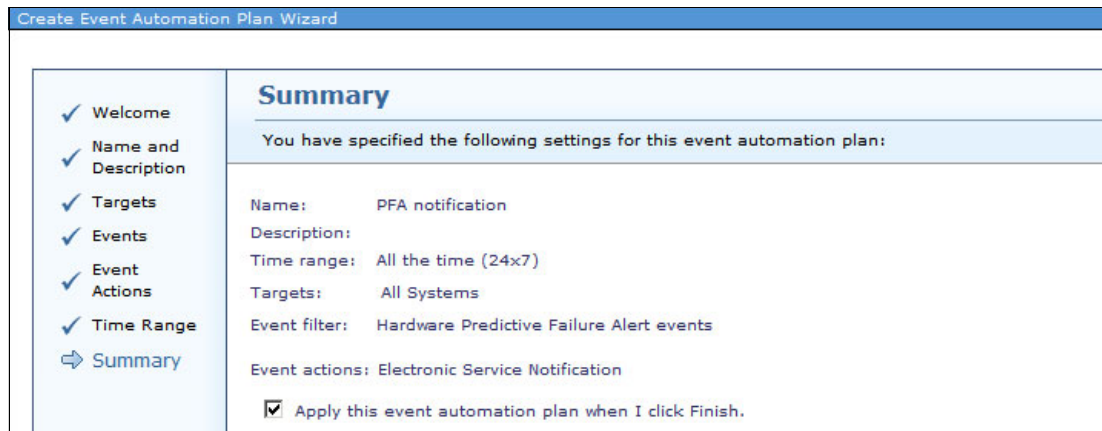

Figure 7-26 Create Event Automation Plan Wizard Summary window
12. In the Summary window (Figure 7-26), verify the details of the event automation plan. If you need to make changes, click **Back**. Ensure that you specify whether you want to apply the event automation plan as soon as you finish creating it. Click **Finish**.